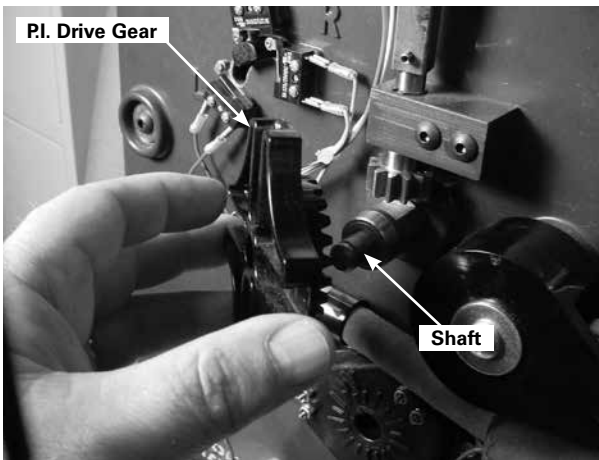

Figure 3. P.I. drive gear and shaft
2. Slide the PI drive gear off of the shaft. See Figure 3.